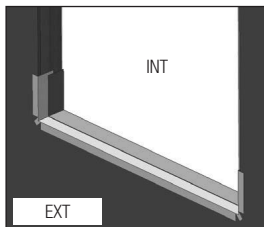

FIG. 8
- F) Flashing must cover the entire sill plate. If needed, apply an additional flashing piece over the first one (start from the exterior and work toward the interior). Maintain a minimum 1" overlap. (Fig. 8)